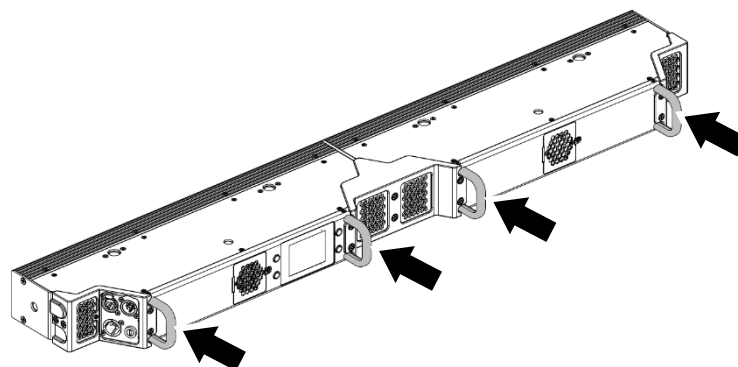

Figure 3. Use handles for safety cable attachment
2. See Figure 3. Loop the cable around one of the fixture's handles (arrowed). Take up as much slack as possible in the cable (by looping it more than once around the truss chord, for example), then close the cable. Make sure that the cable will catch the fixture if the rigging hardware fails.